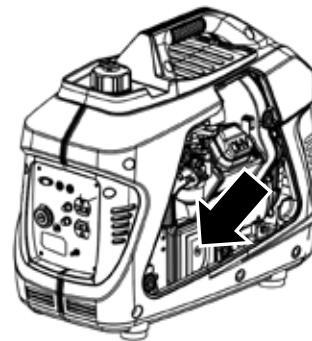

Figure 14: Remove Air Filter Screw
3. Unscrew the air cleaner cover and tip the cover down (see Figure 14).